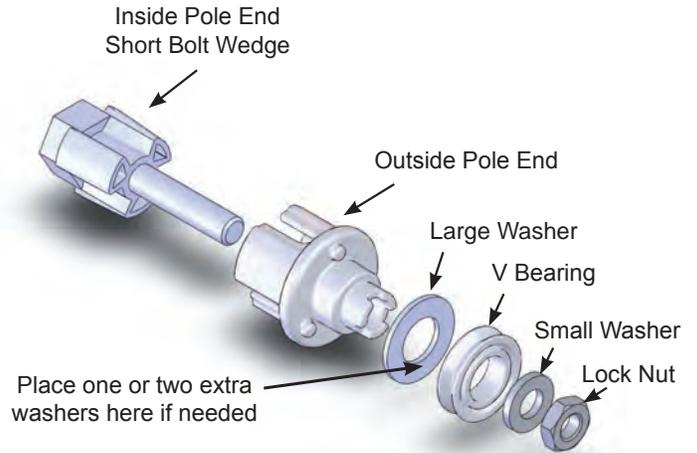

Figure 1
First, make sure that the pole brackets have been assembled correctly and that they are perpendicular to the front of the frame. Make sure the pole ends are assembled correctly, with the washers located as shown in Figures 1 or 2.
3. To lengthen a pole, place an additional one or two large washers, as needed, to the pole end, between the “V” bearing and the original large washer, as shown in Figures 1 or 2 (for a total of two or three washers). This will make the pole longer, allowing the “V” bearing to engage.